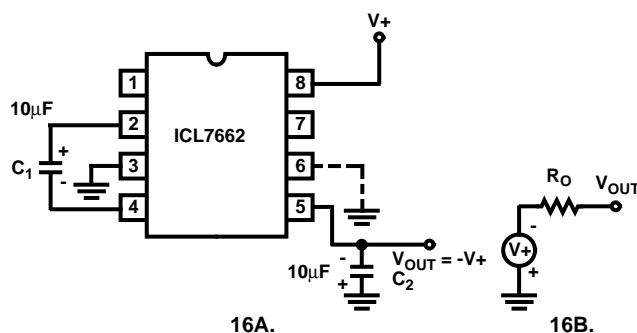

FIGURE 16. SIMPLE NEGATIVE CONVERTER AND ITS OUTPUT EQUIVALENT
The majority of applications will undoubtedly utilize the ICL7662 for generation of negative supply voltages. Figure 16 shows typical connections to provide a negative supply where a positive supply of +4.5V to 20.0V is available. Keep in mind that pin 6 (LV) is tied to the supply negative (GND) for supply voltages below 10V.
Figure 23 combines the functions shown in Figure 16 and Figure 22 to provide negative voltage conversion and positive voltage doubling simultaneously. This approach would be, for example, suitable for generating +9V and -5V from an existing +5V supply. In this instance capacitors C₁ and C₃ perform the pump and reservoir functions respectively for the generation of the negative voltage, while capacitors C₂ and C₄ are pump and reservoir respectively for the doubled positive voltage. There is a penalty in this configuration which combines both functions, however, in that the source impedances of the generated supplies will be somewhat higher due to the finite impedance of the common charge pump driver at pin 2 of the device.